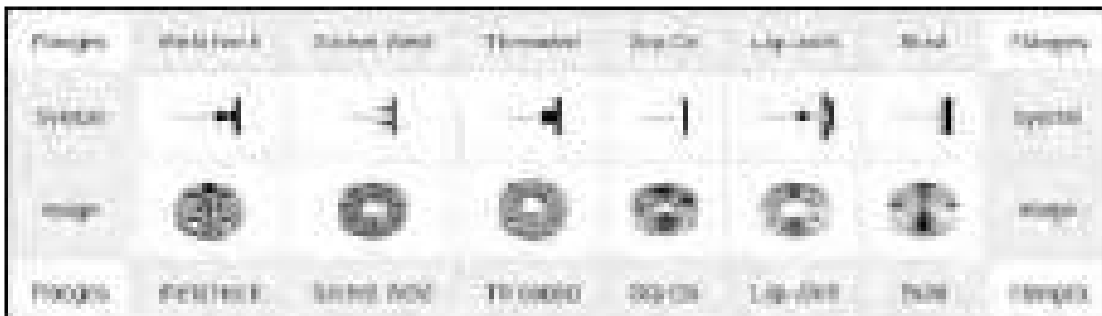

Fig. 1.2.32 T Flanges symbols and Images
- b. Flange symbols and corresponding images are depicted in Fig 1.2.32.